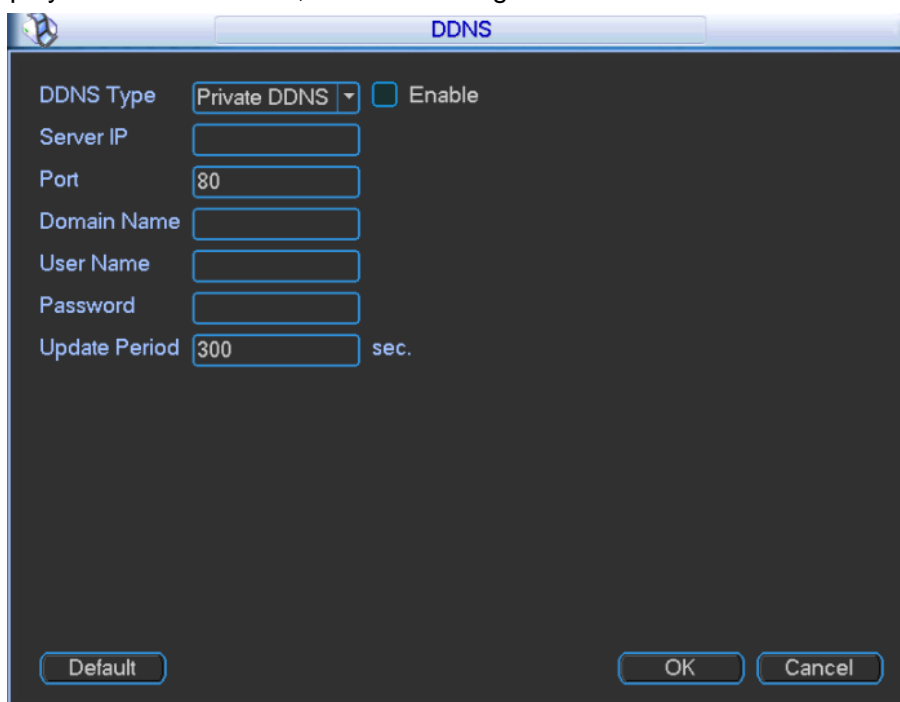

Figure 3-42
Step 1 In main menu, select "Setup> Network> Network Setup > DDNS", and the system displays "DDNS" interface, as shown in Figure 3-42.